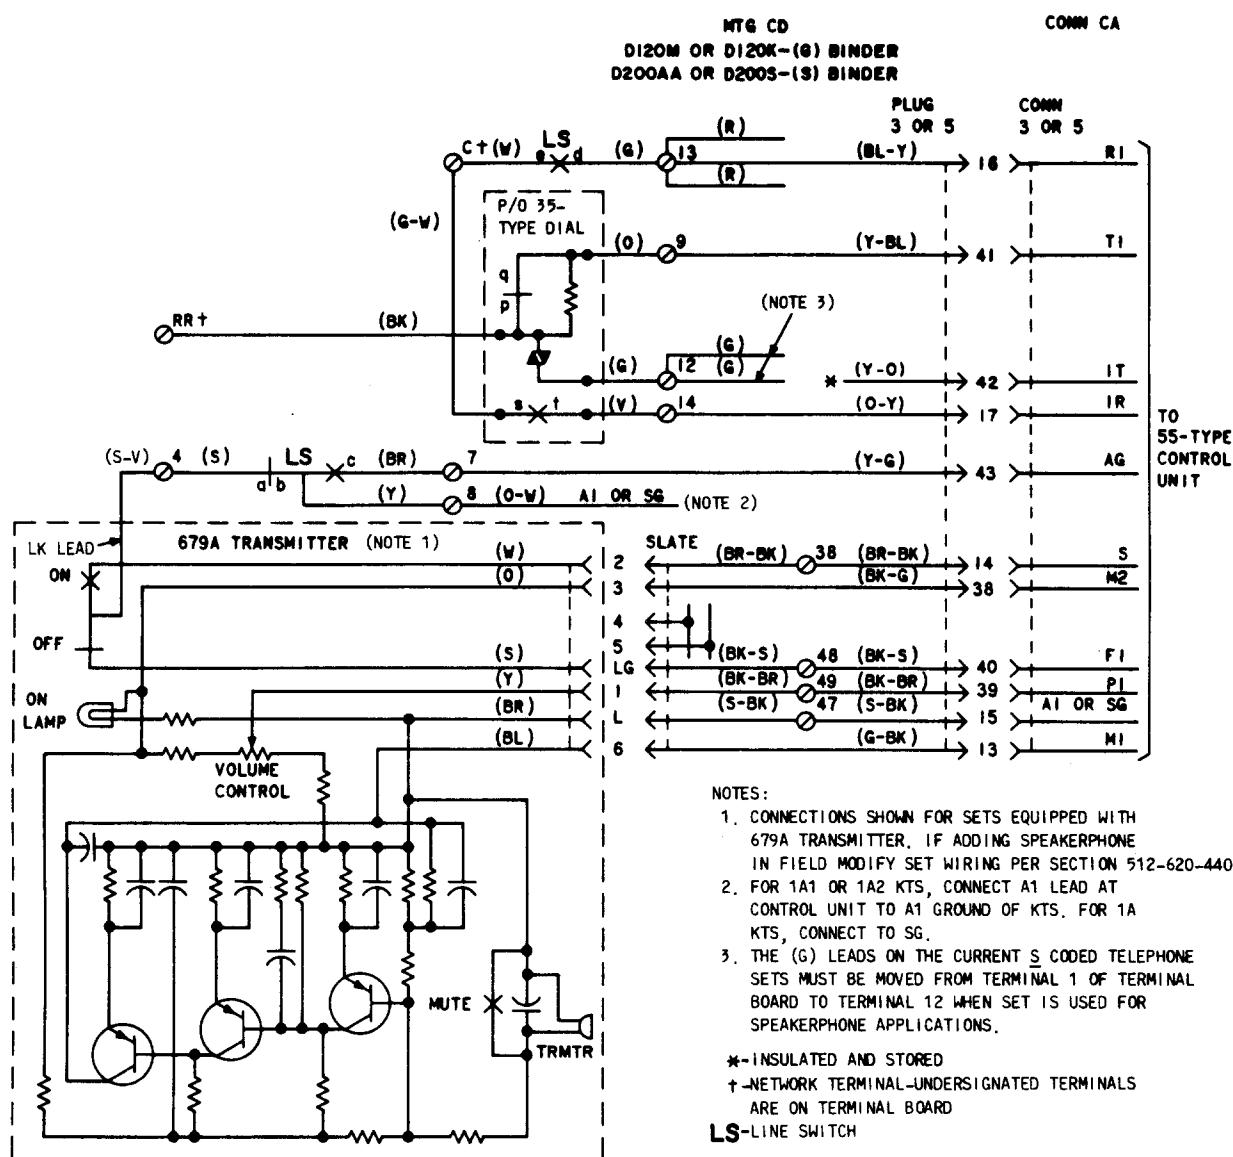

Fig. 5—#3-Type (MD) Speakerphone Connections Using Internal 679A (MD) Transmitter
- 2.10** Sets may be equipped for 3-type (MD) speakerphone by the addition of a 679A (MD) transmitter in the 3rd (2630-type) or 5th (2631-type) module (Fig. 5). Refer to Section 512-620-440 for necessary wiring changes and connections.
2. IN SETS EQUIPPED WITH A 658A KEY THE (G) CONTACT STRIP LEAD IS TERMINATED ON 17 AND (R) ON 18. IF A 658A KEY IS ADDED IN THE FIELD, LEADS MUST BE MOVED FROM PRECEDING MODULE CHAINING CIRCUIT TO TERMINALS 17 AND 18.
5. MODULE MAY ALSO BE EQUIPPED WITH A 679A (MD) INTERNAL TRANSMITTER FOR SPEAKERPHONE. SEE FIG. 5 AND SECTION 512-620-440 FOR WIRING CHANGES.
6. TO SUPPLY "I" HOLD FEATURE TERMINATE (Y-BR) MOUNTING CORD LEAD FROM (O) BINDER GROUP TO TERMINAL 24. LEAD BECOMES SP LEAD AT EQUIPMENT.
7. IF HOLD POSITION LAMP IS REQUIRED CONNECT (G-Y) AND (Y-G) PINK PLUG LAMP LEADS TO THE (G-Y) AND (Y-G) MOUNTING CORD CONDUCTORS USING SPARE TERMINALS OR D-161488 CONNECTORS. LAMP MUST BE SEPARATELY ORDERED AND INSTALLED. HOLD POSITION LAMP CANNOT BE ILLUMINATED WHEN EXTERNAL TRANSMITTER IS WIRED FOR 3-TYPE (MD) SPEAKERPHONE USING MOUNTING CORD LEADS.
8. 3-TYPE (MD) SPEAKERPHONE LEADS WHEN ASSOCIATED WITH EXTERNAL TRANSMITTER.
9. THESE CONTACT STRIPS ARE REQUIRED WHEN TELEPHONE SET IS EQUIPPED WITH THE D120K (MD) OR THE D200S (MD) MOUNTING CORD. THESE CONTACT STRIPS SHOULD NOT BE USED WHEN TELEPHONE SET IS EQUIPPED WITH THE D120M OR D200AA MOUNTING CORD OR WHEN TELEPHONE SET IS EQUIPPED WITH A MODIFIED D120K OR D200S MOUNTING CORD.